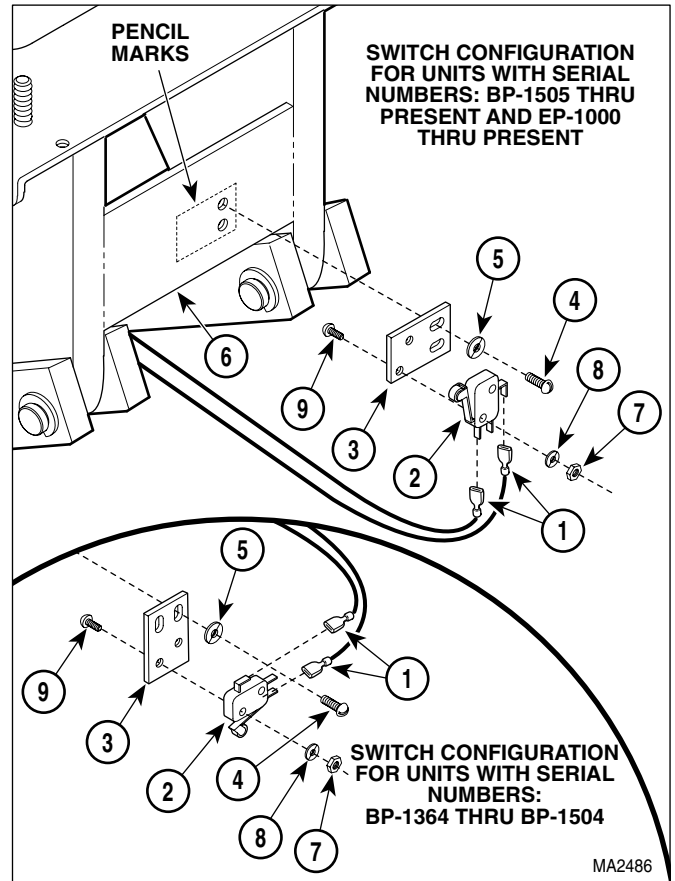

Figure 4-10. Base Down Limit Switch Removal / Installation
- (1) Remove table top (Refer to para 4.3).
- (2) Remove shrouds; only steps 2 and 3 need to be performed (Refer to para 4.4A).
- (3) Disconnect two wires (1, Figure 4-10) from base down limit switch (2).
- (4) Using a pencil, trace the outline of the switch mount (3).
- (5) Remove two screws (4), lockwashers (5), and switch mount (3) from base subassembly (6).
- (6) Remove two nuts (7), lockwashers (8), screws (9), and base down limit switch (2) from switch mount (3).